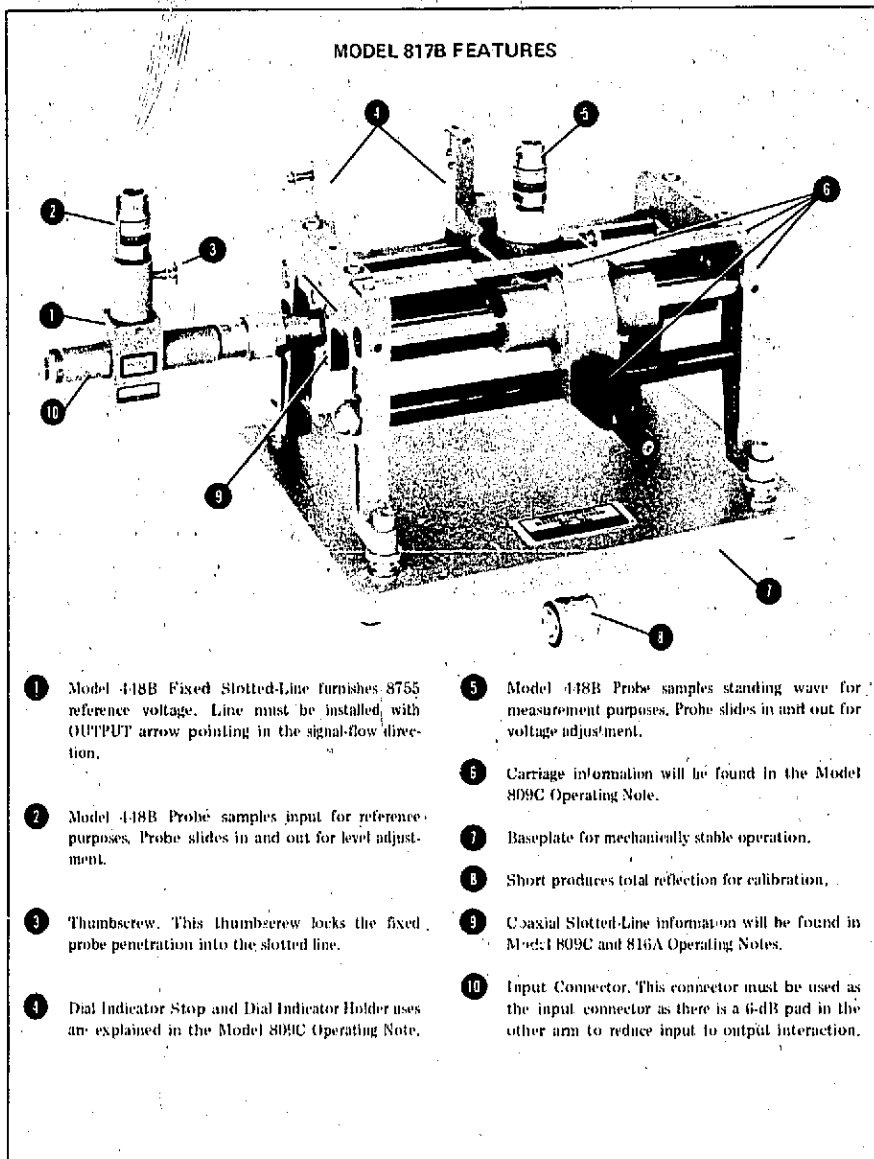

Figure 2. Model 817B Features
28. Inspect the shipping container for damage. If the shipping container or cushioning material is damaged, it should be kept until the contents of the shipment have been checked for completeness and the instrument has been checked mechanically and electrically. The contents of the shipment should be as shown in Figure 2, Model 817B Features, and procedures for checking electrical performance are given under PERFORMANCE TESTS. If the contents are incomplete, if there is mechanical damage or defect, or if the instrument does not pass the electrical performance test, notify the nearest Hewlett-Packard office. If the shipping container is damaged, or the cushioning material shows signs of stress, notify the carrier as well as the Hewlett-Packard office. Keep the shipping materials for the carrier's inspection. The HP office will arrange for repair or replacement without waiting for claim settlement.
49. Figure 2 illustrates the operating features of the Model 817B Coaxial Swept Slotted-Line System. Note that some features are more fully described in the Model 809C and 816A Operating Notes which are included with this manual.